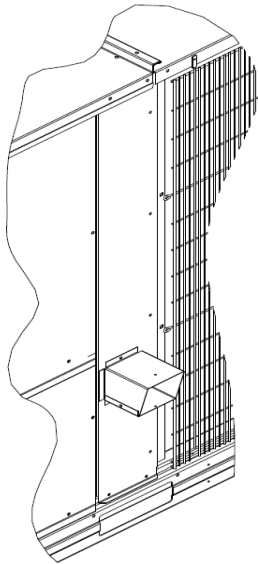

Fig. 1 — Existing Flue Outlet Hood
3. Remove existing flue hood from unit. Save screws. See Fig. 1.